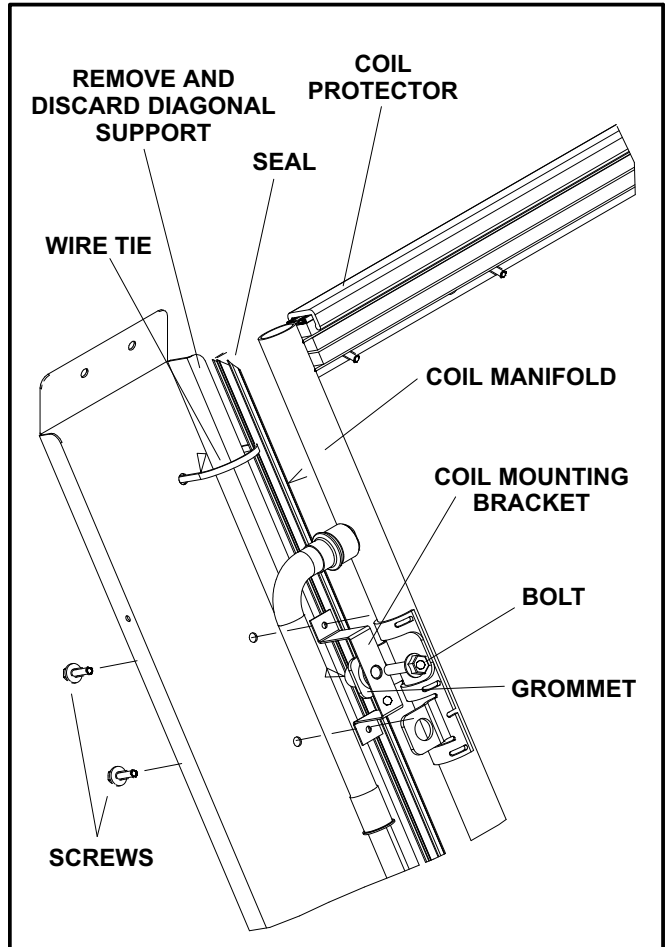

FIGURE 4
- 1- Remove hardware securing diagonal coil support rails to all eight coil mounting brackets. See figure 4.